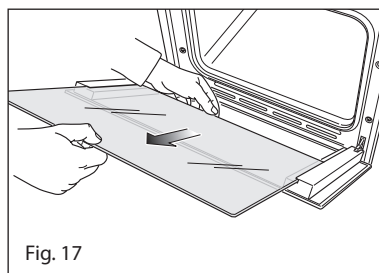

Fig. 17
- Gently pull out the inner pane of glass (Fig. 17).